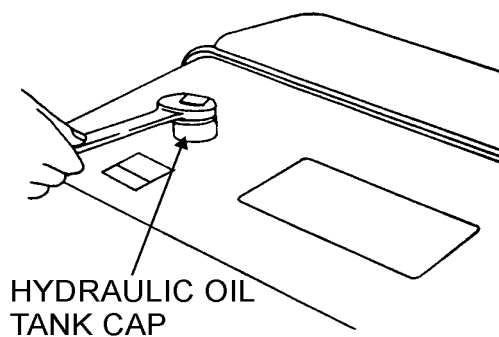

Figure 30. Hydraulic Oil Change
4. Open the tank cap (Figure 30) and fill tank with hydraulic oil. (Capacity: About 4.5 gallons). Use **Shell Tellus Oil #46** or equivalent.